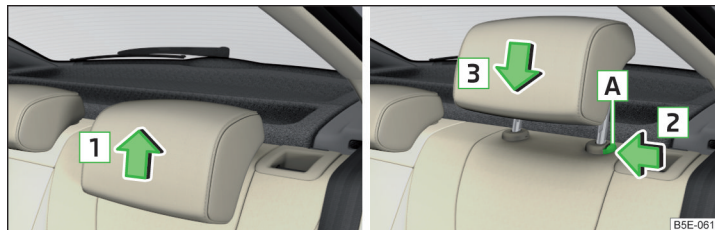

Fig. 90 Setting the height of the back headrest
- » Grasp the headrest and move **upwards** in the direction of **1** » Fig. 90.